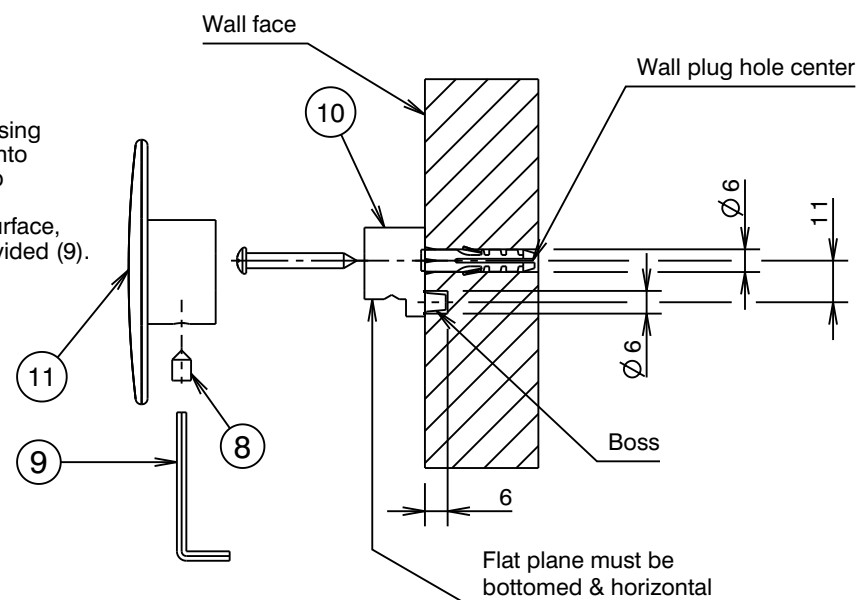

Fig. 2
- * Wall anchor (1) is only suitable for use in cavity walls with a tiled surface. If installing into a plasterboard cavity wall (untiled) it is recommended that the accessory be attached to the wall in line with a stud or noggin using suitable screws.
- * For cavity wall applications, the total wall thickness must be 8-16mm when using the supplied wall anchors (1).
- * Ensure hole centres are vertical before drilling. Centre of mounting block hole to centre of boss hole is 11mm (Fig. 2)
- 2) Drill a hole 6mm diameter, 6mm deep for boss and 11mm apart vertically as shown in Fig. 2.
- 3) Insert rounded end of the wall plug (2) into the top drilled hole and push in until flush with the wall surface.
- 4) Fit the screw (4) through hole in mounting block (10) before inserting into the wall plug (2). Ensure orientation of mounting block (10) is vertical as pictured in Fig. 2.
- 5) Check alignment of mounting block before tightening screws (4).
- 3) Flatten barbs on head flange of the wall anchor (1). Insert the wall anchor (1) into the top drilled hole until the head flange is against the wall surface.
- 4) Fit the wall anchor M4 screw (5) with a washer (6) through hole in mounting block (10) before screwing it into installed wall anchor (1). Ensure orientation of fixing plate (10) is as pictured in Fig. 2.
- 5) Check alignment of mounting block before tightening screws (5).
- 1) Determine a suitable position to attach the mounting block (10) so that it can be fixed to a stud or noggin in the wall.
- 2) Ensure correct orientation of the mounting block (10) is vertical as shown in Fig. 2. Fit a suitable screw (4) through the hole in mounting block (10) and screw directly into stud or noggin.